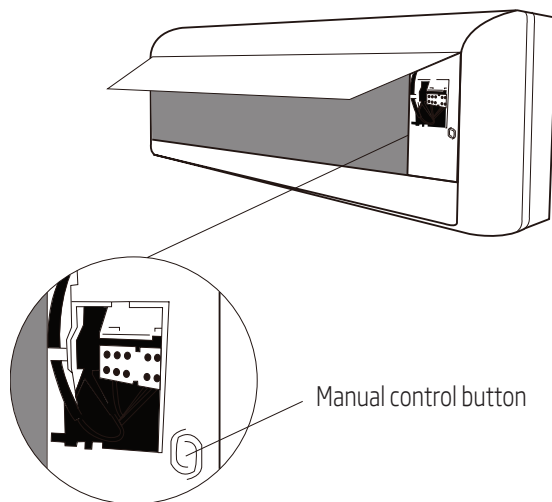

Fig. 6.1
2. The MANUAL CONTROL button is located on the right-hand side of the unit. Press it 2 times to select the COOL function. See Fig. 6.1